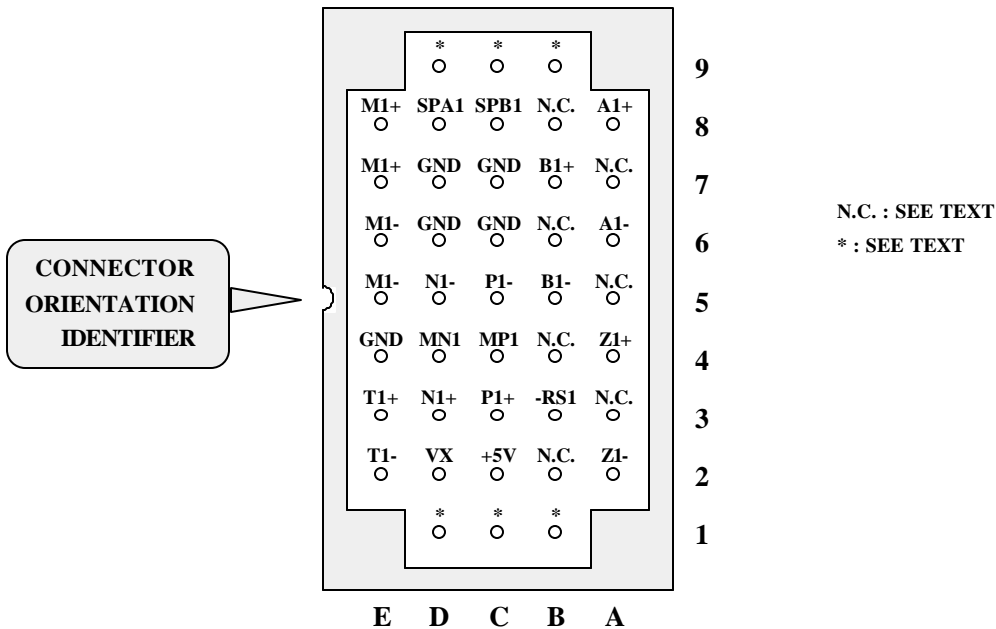

Fig. 4.3.1. Function connector, connection side view.
**Note:** Pins marked with "\*" in fig 4.3.1 are used internally and may NOT be connected. Pins marked with "N.C." are not connected.
Each function FI to FIV has two unassigned pins SPA and SPB (see fig 4.3.1. and 4.3.2.) that can